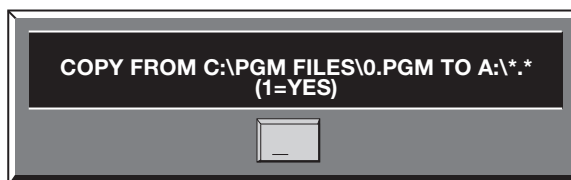

Figure 10-8
2. Press the **[1]** key **[1 TO A:]** and Figure 10-8 will be displayed.
NOTE: The copy process will only proceed if the number one (1) is typed in the prompt box of Figure 10-8. EZTRAK will return you to the Figure 10-6 window if anything other than 1 is entered.